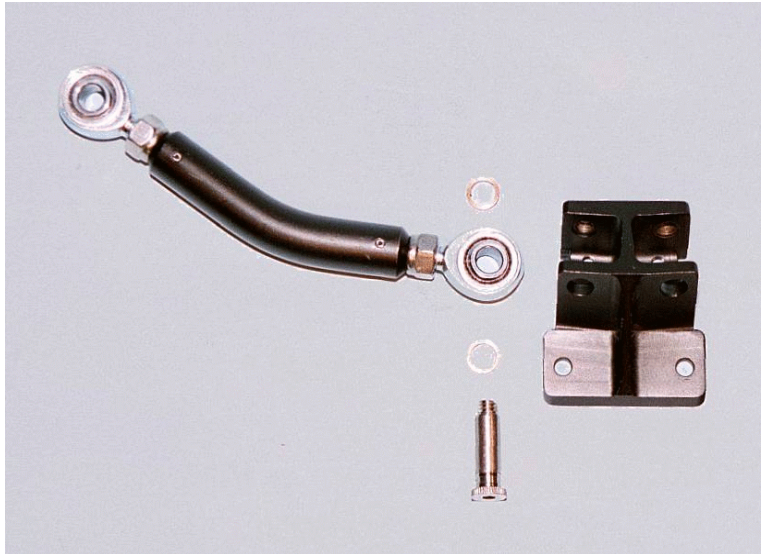

Figure 8.3- Upper Sternum / clavicle exploded assembly
1. Position a Sternum / Clavicle Washer (T1SHM010) on both sides of the right Clavicle Assembly (T1SHM002) ball end joints. Position the ball end joint and washers into the recess on the back right side of the Upper Sternal Plate (T1SHM018), and secure the clavicle with a Sternal / Clavicle Bolt (T1SHM011) {3/16} inserted from the bottom side, as shown in **Figure 8.3**.